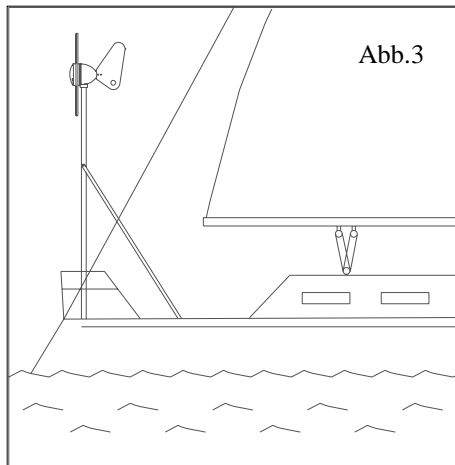

Abb.3
- **Deck - Pushpit-Reiling** (Abb.3)